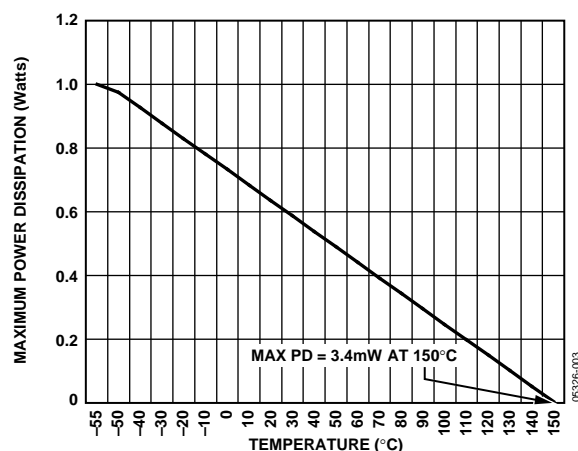

Figure 3. MSOP Maximum Power Dissipation vs. Ambient Temperature
1 Values relate to package being used on a standard 2-layer PCB. This gives a worst case  $\theta_{JA}$  and  $\theta_{JC}$ . Refer to Figure 3 for a plot of maximum power dissipation vs. ambient temperature (TA).